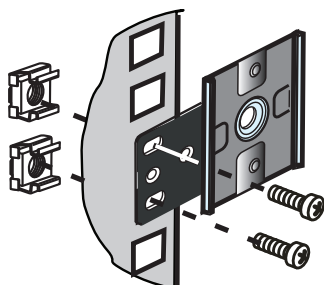

Figure 20. Attaching the Rotated Clip to the Rail
6. Locate the two clip feet and four M6 screws (supplied). Turn the straight part of the bracket 90° (see Figure 20).